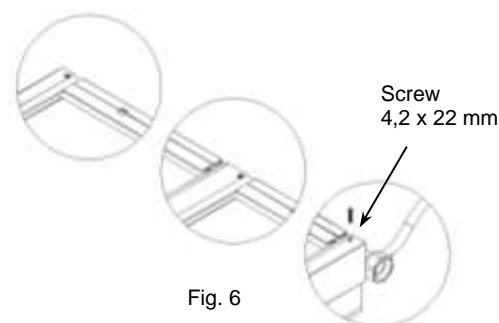

Fig. 6
**Note! The countersunk hole in the strips must be at the top of the cover (Fig. 6)! Tap with the rubber mallet downwards the collector until the cover strip clicks into place.**
12. Fix the cover strips with the screws of dimension 4,2 x 22 mm through the pre-assembled hole to the collector (Fig. 6).